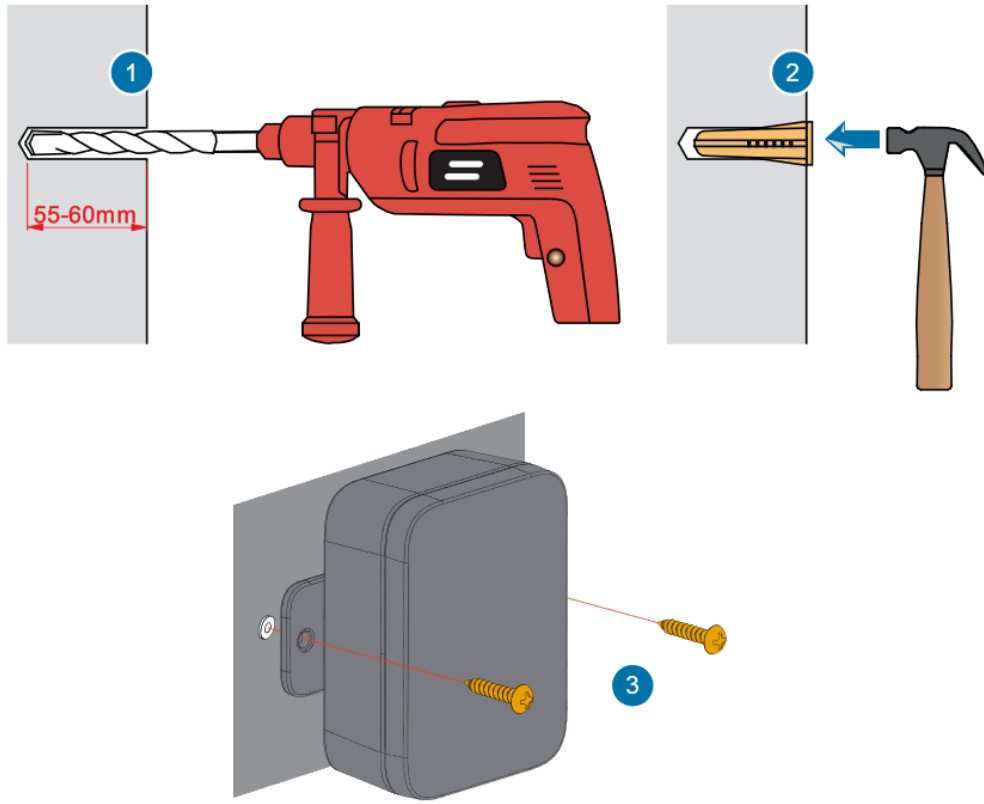

Figure 18: Fixing the enclosure on the wall
3. Lastly, follow the steps below, as also shown in **Figure 18**:
- **Step 3:** Fix the WisBlock Unify Enclosure on the wall using two (2) pieces of st3.5*35 mm tapping screws.